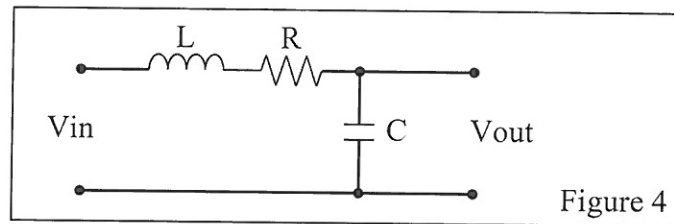

Figure 4
- 4.1 The electrical circuit in figure 4, has the following component values: